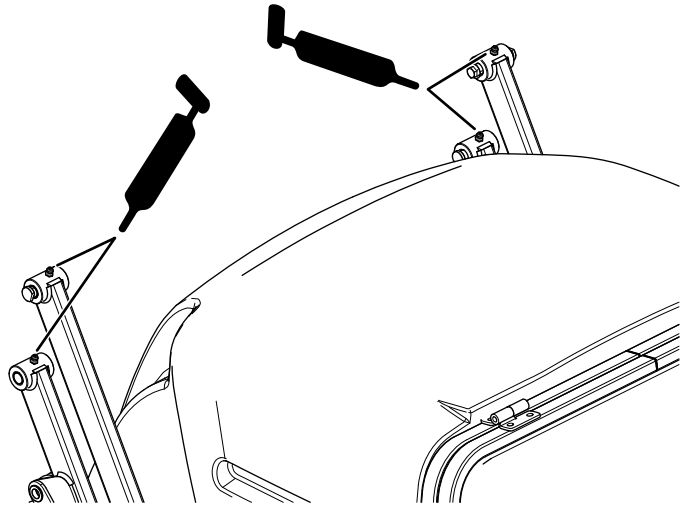

Figure 47
- Hopper arms—upper (Figure 47)